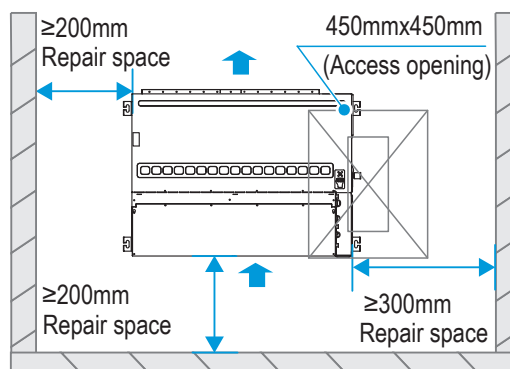

Fig. 1
- ✓ Adequate space for installation and maintenance shall be provided. (See Fig. 1)